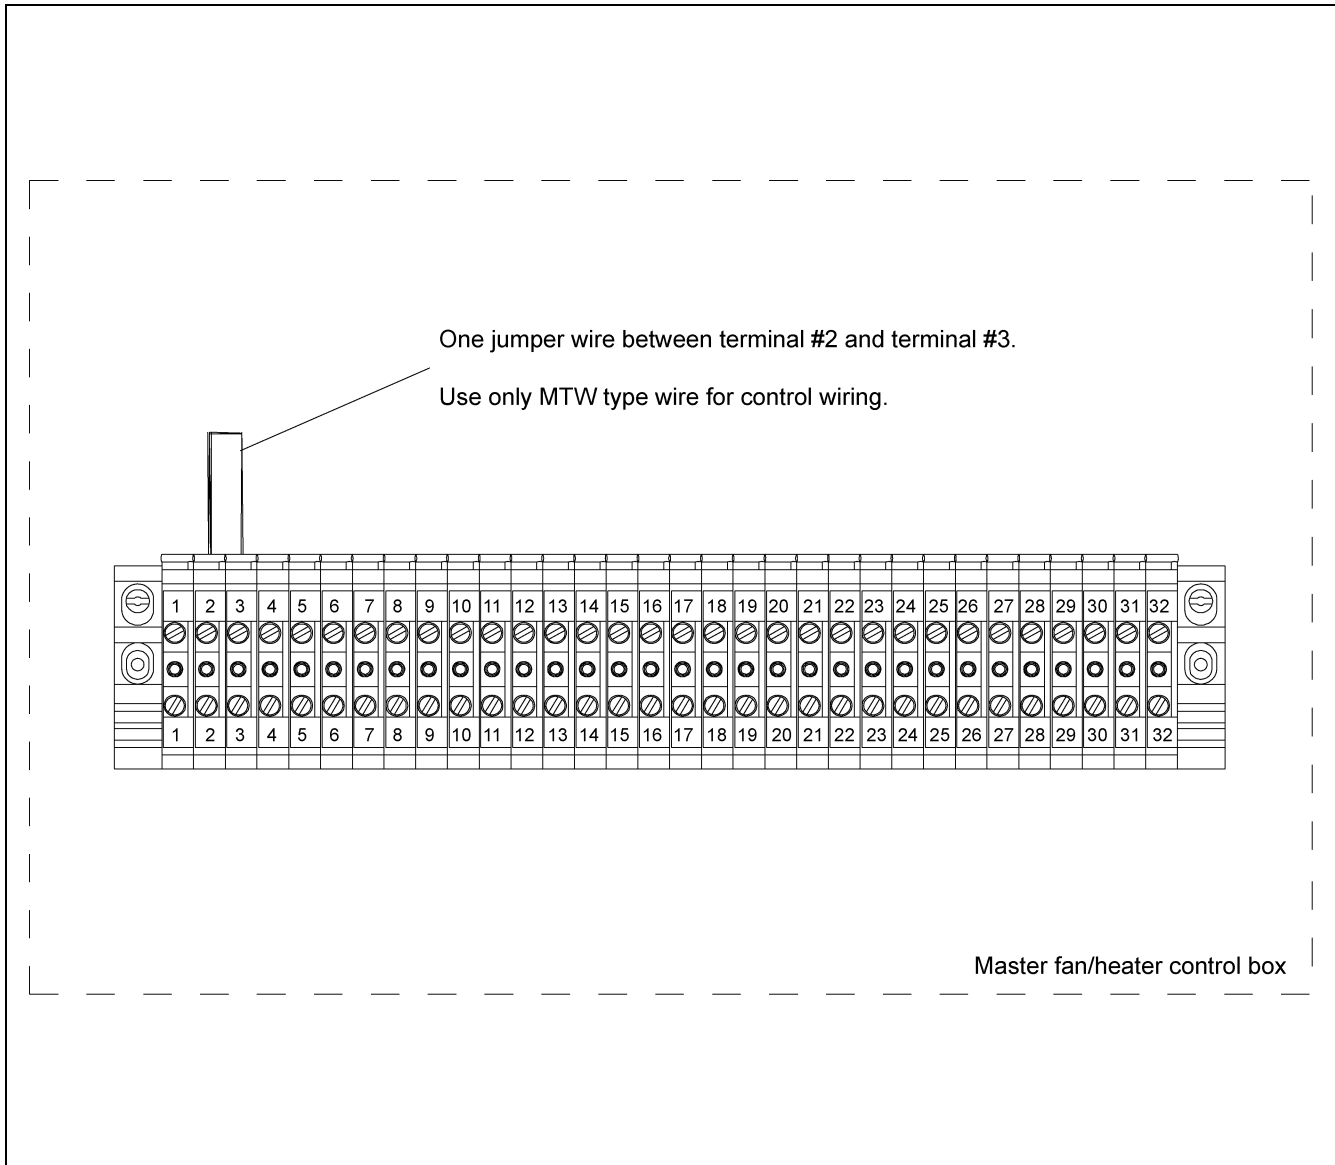

Figure 4D Wiring for a Stand Alone Fan/Heater Unit
2. Figure 4D details the placement of the jumper.